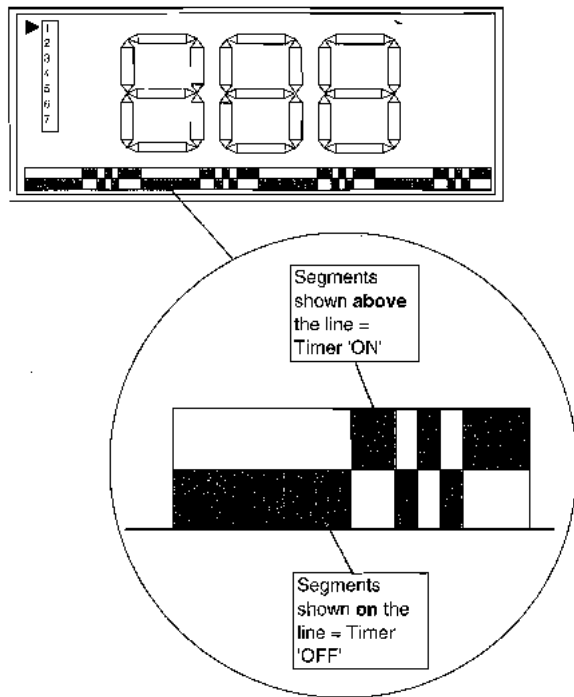

Fig. 15 Timer segments
30. Press the '-' button (Fig. 13) until the arrow points to '2' (Fig. 15) and press 'OK' and '0000' will be displayed, with the left hand zero flashing.
3. Press the '-' button to move the small arrow on the left hand side of the display down to '2' (Fig 15) and press 'OK'. '0000' will now be displayed, with the left hand zero flashing.
5. On the selected day, use the '+' and '-' buttons to set the on and off periods. NOTE: If the segment is shown **above** the line an 'ON' period is set. If the segment is **on** the line the timer is set to 'OFF'. (Fig 15). The temperature will be controlled to the set back mode when the timer is 'OFF'